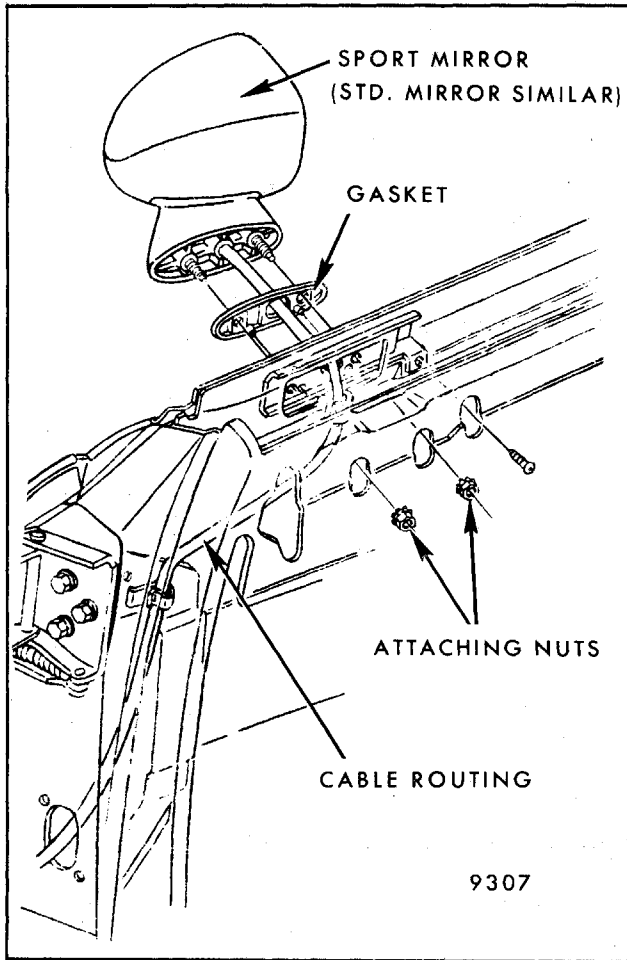

Fig. 5-106 - Door Outside Remote Mirror - Typical, All Styles - Right Side
4. Remove stud nuts (Fig. 5-106) and remove mirror and cable assembly from door.